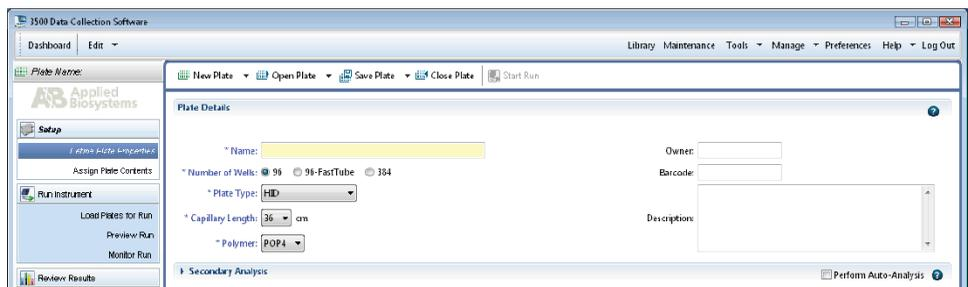

Figure 9. Assigning plate contents.
- Assign a descriptive plate name. Select the plate type “HID” from the drop-down menu (Figure 9).